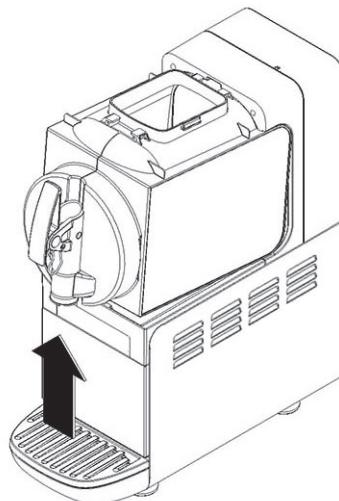

figure 8
- 4** Remove the bowl by lifting its faucet side up and off the fastening hooks (see figure 8) and